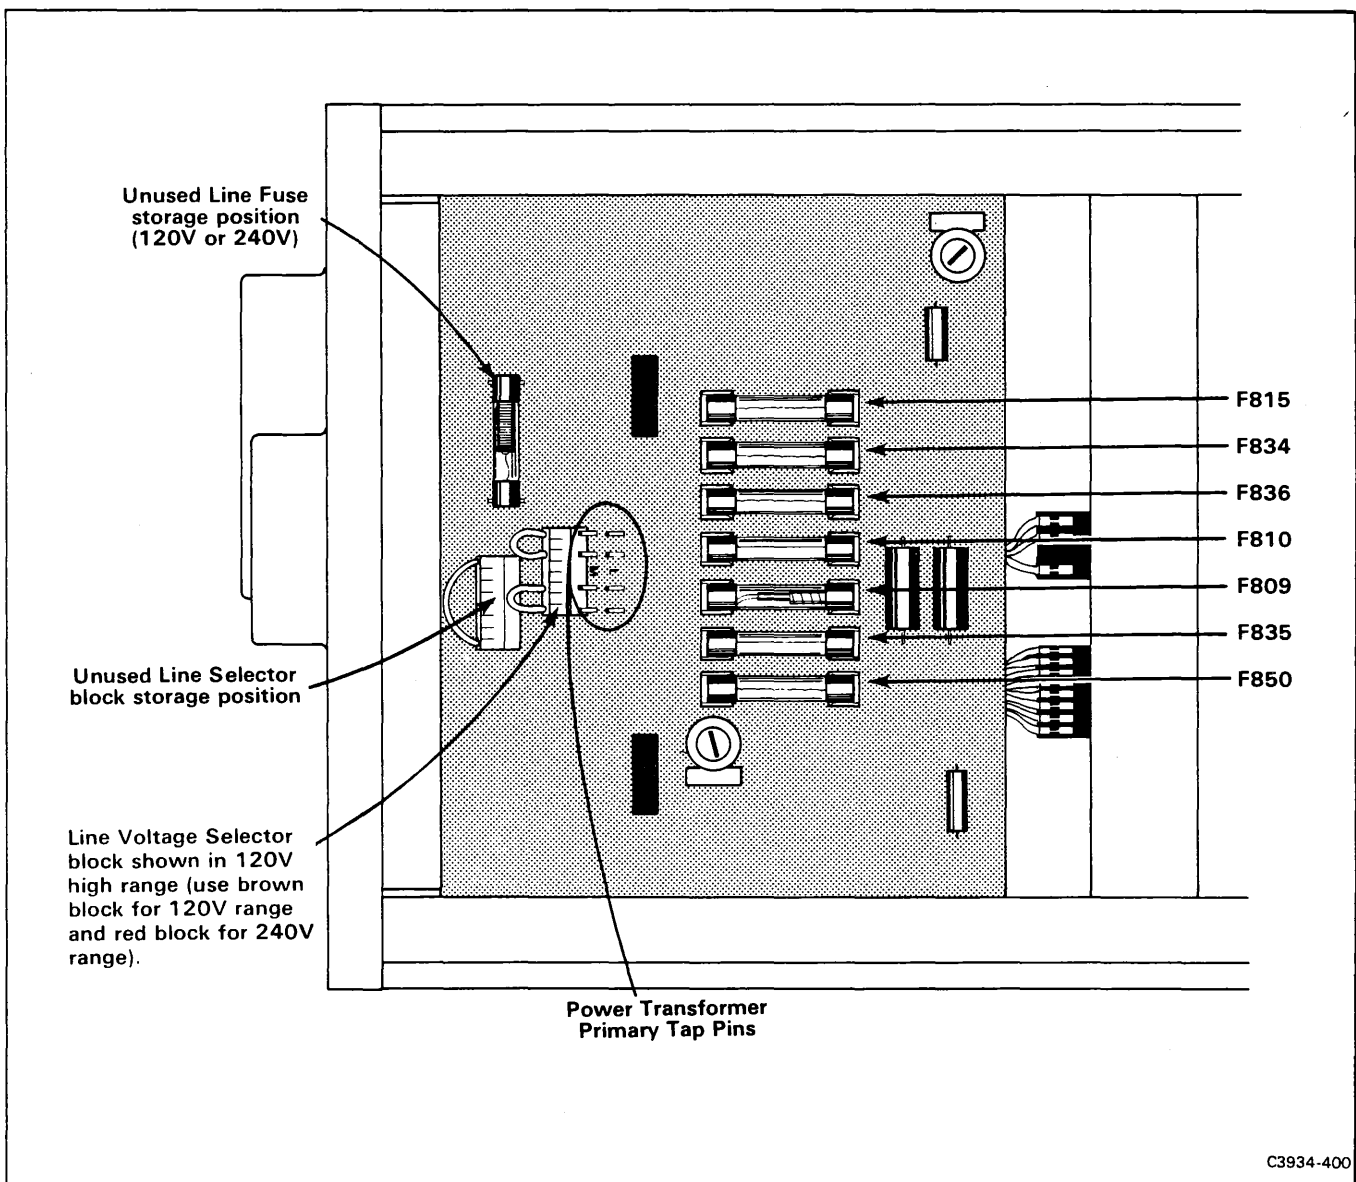

Figure 4-1. Locations of the line-selector blocks on the LV Power Supply circuit board.
4. In the instrument, select the proper line-voltage selector block (see Fig. 4-1 for line-selector block locations). Select the brown block for 120-volt operation or select the red block for 240-volt operation. Install the block on the row of primary-tap pins noted from Table 4-1 in the previous step (either L, M, or H).
5. Install the unused block on the unused line-selector block pins (see Fig. 4-1 for pin location).
*An unused line fuse is clipped to the LV Power Supply circuit board. This is for the line-voltage source that has not been set at the factory (see Fig. 4-1). If the line-voltage source is changed, store the unused fuse in these clips.*